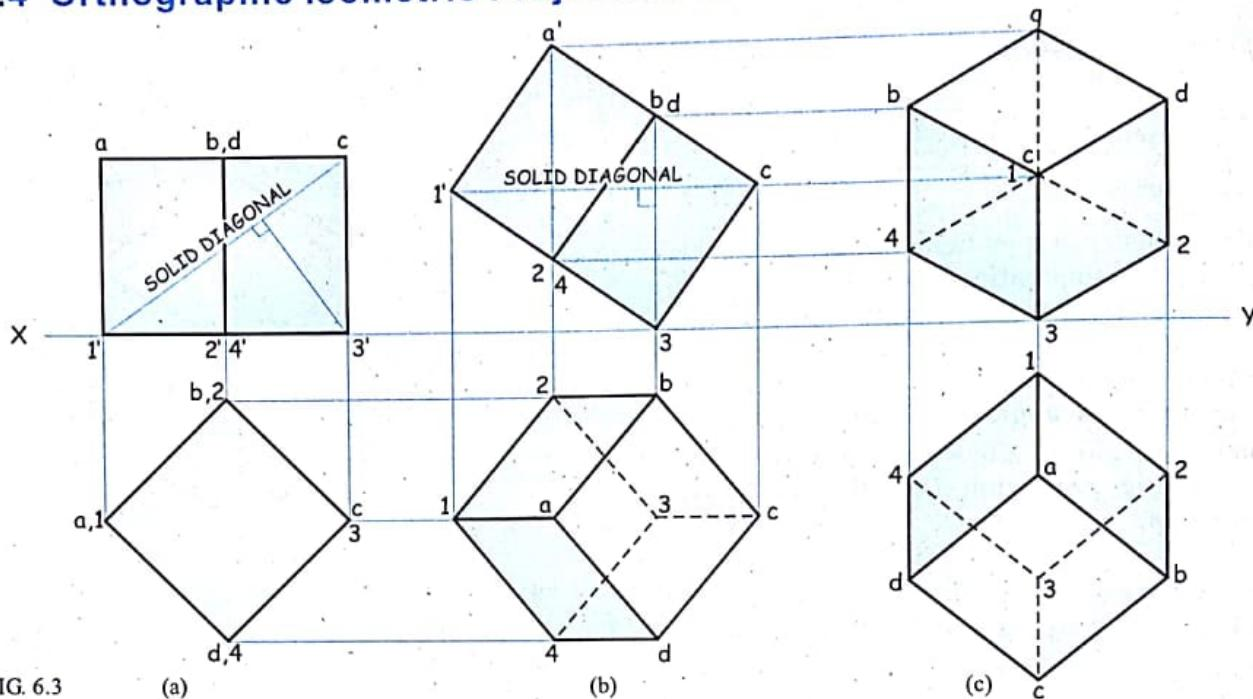

FIG. 6.3
1. Place the cube in H.P. with faces equally inclined 45° to the V.P. Refer figure 6.3 (a).
2. Turn the cube at one of its corners such that solid diagonal becomes parallel to the H.P. Refer figure 6.3 (b).
3. Rotate the cube such that the solid diagonal (1-c) becomes perpendicular to the V.P. Refer figure 6.3 (c). The F.V. of the cube represents its Isometric Projections.